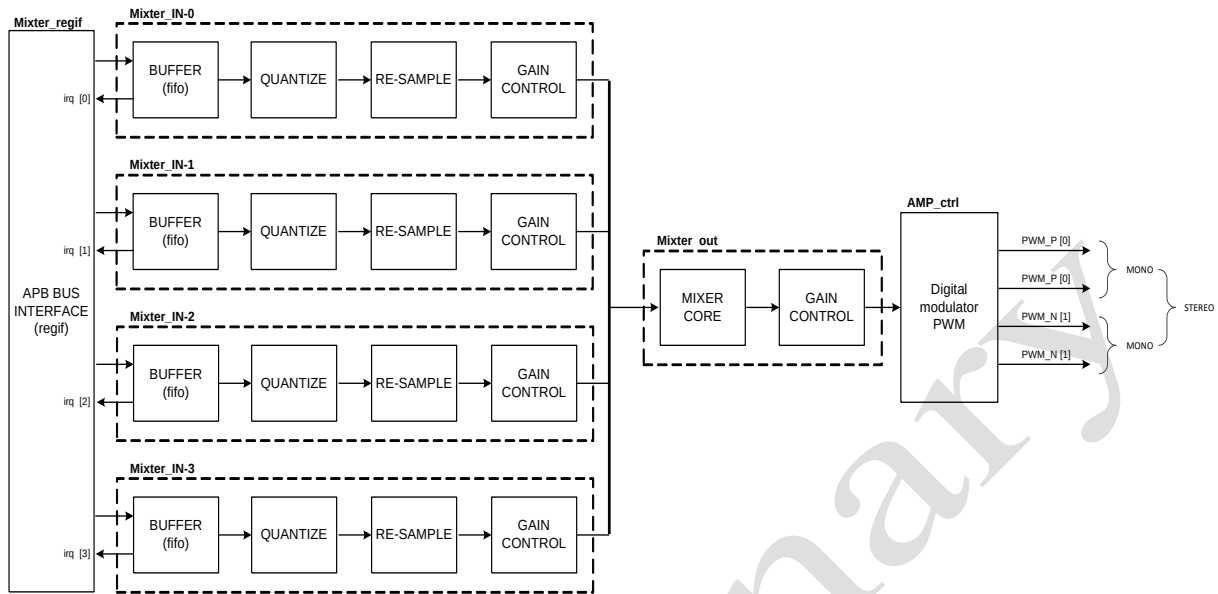

Figure 22-4 Sound Mixer output diagram
*** Sound mixer consist of 4ch input(IN0~3) and 1ch output(out_2). The value which configured by register entry to mixer IN 0~3 and output to mixer OUT like Figure 22-4. At this moment, Each IN0~3 interrupt signals make from or circuit inside the mixer_regif block.